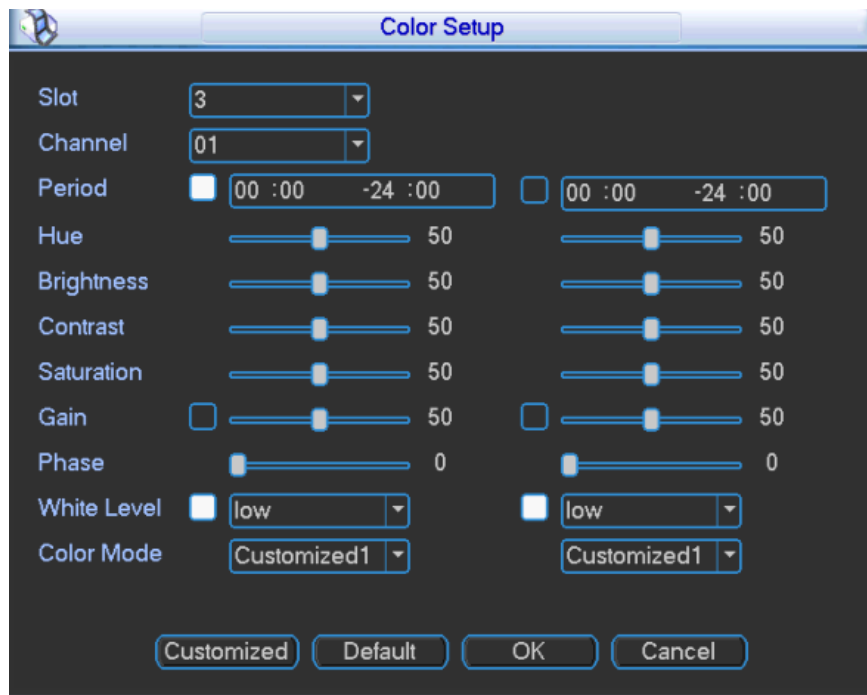

Figure 3-64
- Step 1 Click "Color Setup". The system displays "Color Setup" interface, as shown in Figure 3-64.